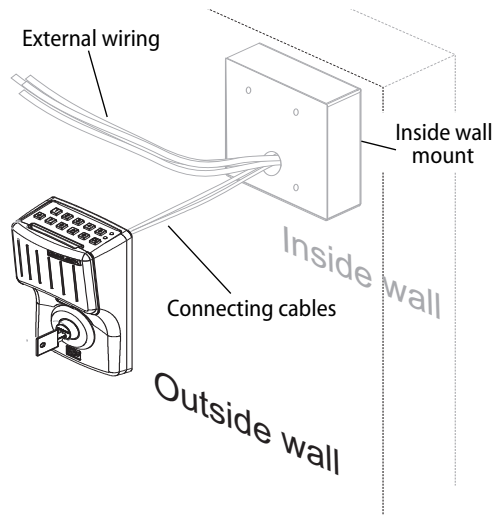

Figure 6 Installing the Extreme Weatherized unit
- 3 Route the connecting cables, power supply, device and grounding wire through the wire access hole in the inside wall. Allow approximately 4 inches of wire to protrude from the wall. See Figure 6.